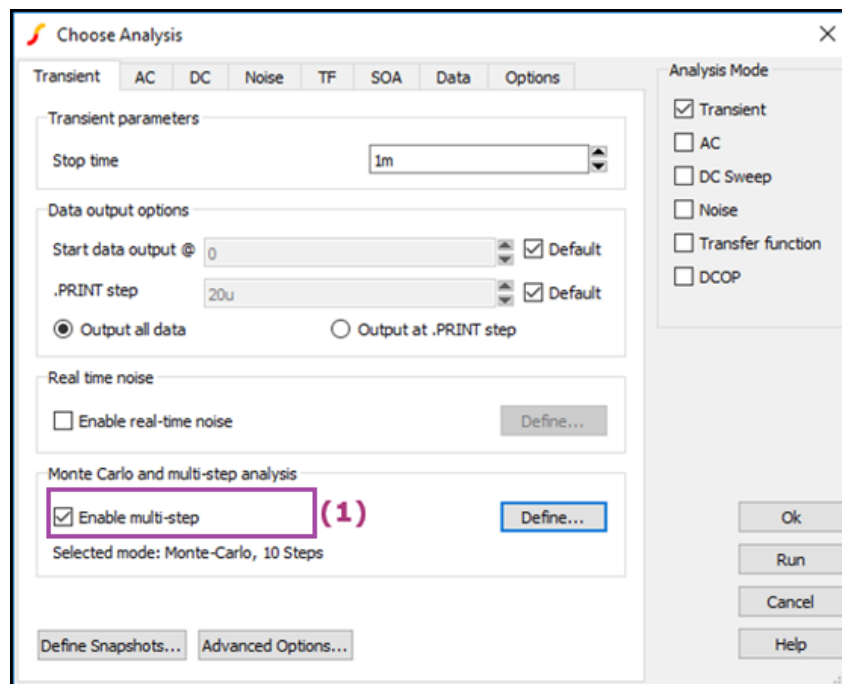

Figure 16 Set up a parametric simulation
- Set up an analysis to sweep a variable through a range of values. The effect is the same as running the circuit several times, once for each value of the swept variable. To perform this analysis follow the steps from **Figure 16**.
- In “**Chose Analysis**” menu select “**Enable multi-step**” (1) and click on “**Define...**”